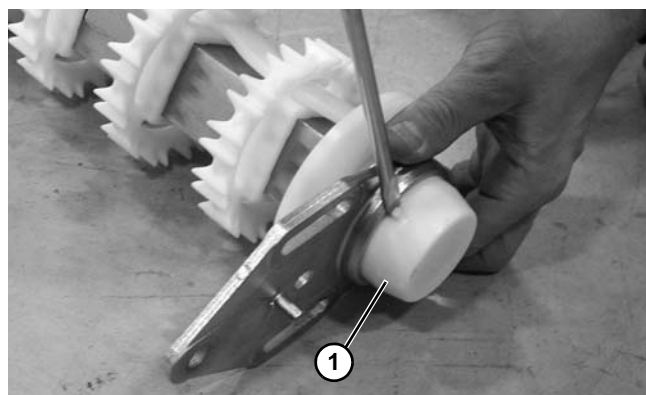

Figure 57
5. Remove bearing cover (**Figure 57, item 1**).